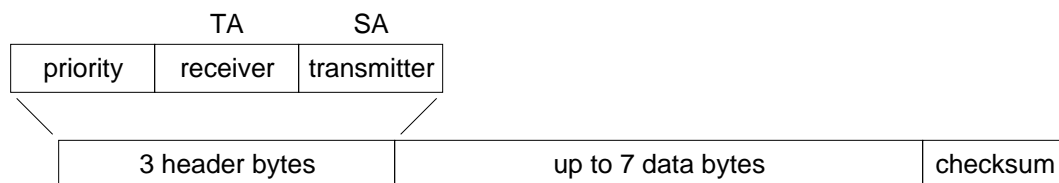
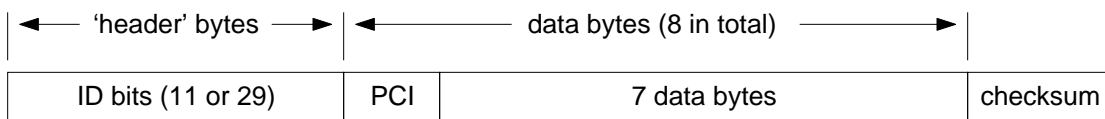

Figure 3. An OBD Message - Initial Protocols
Figure 4. A CAN OBD Message
The information describing the priority, the intended recipient, and the transmitter are usually needed by the recipient even before they know the type of request that the message contains. To ensure that this information is obtained first, OBD systems transmit it at the start (or head) of the message. Since these bytes are at the head, they are usually referred to as header bytes. Figure 3 below shows a typical OBD message structure that is used by the older OBD standards. It uses 3 header bytes as shown, to provide details concerning the priority, the receiver, and the transmitter. Note that many texts refer to the receiver as the 'Target Address' (TA), and the transmitter as the 'Source Address' (SA).
The ISO 15765-4 (CAN) protocol uses a message structure that is very similar to that of Figure 3 - see Figure 4, below. The main difference between the two is really only the structure of the header, as CAN does not have distinct bytes, but rather has groups of bits. For this reason, CAN headers are generally known as 'ID bits' and not headers. We use the terms interchangeably, however, as so many people are familiar with our other OBD chips (the ELM320, ELM322, ELM323 and ELM327) which use the term 'header' almost exclusively.